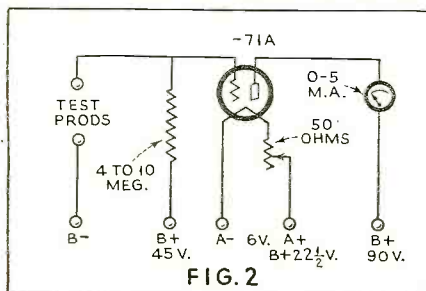

FIG. 2
G. R. Gabbert of Mahoney City, Pa., prefers the circuit of Figure 2 to the dia-